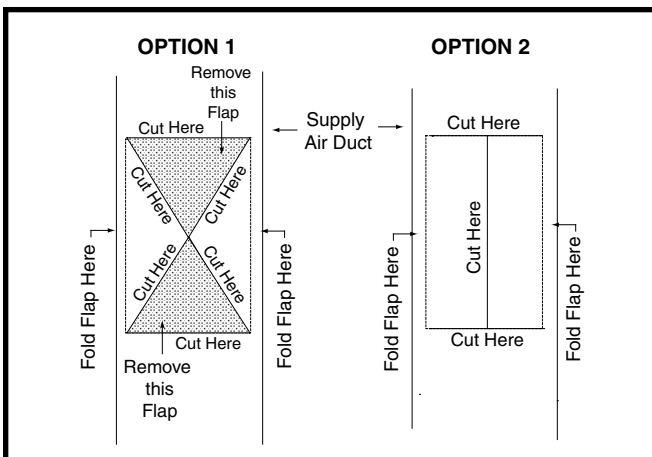

Figure 11. Narrow Air Duct Openings
1. Score and cut the top of the supply air duct as indicated in Option 1 or Option 2. See Figure 11 (page 9).